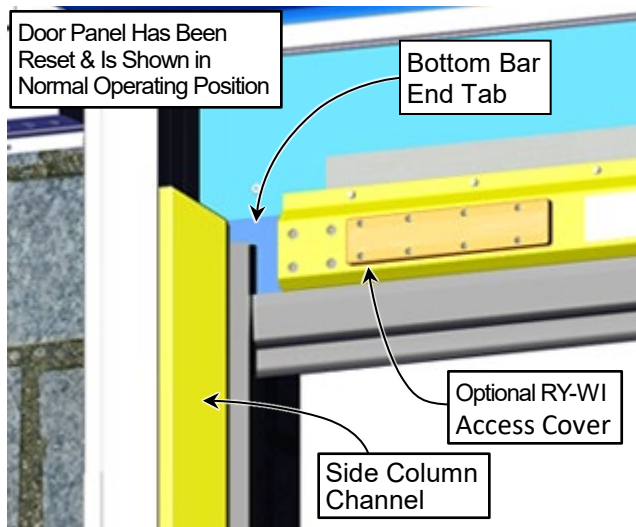

Figure 35
5. Then the door panel will guide itself into the channel and resume its normal operation. (See Figure 35)